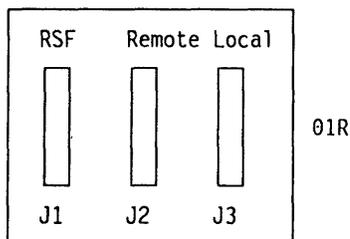

Figure 3-1. Console Outputs
4. Open the rear door of the 3745, remove the appropriate cable (if installed) from the output and connect the wrap plug. See Figure 3-1 and Table 3-1.